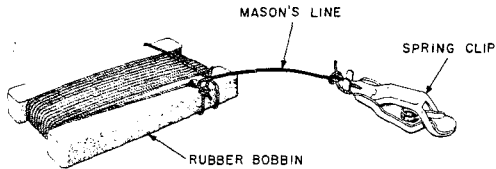

Fig. 12—Clearance Measuring Line
4.01 The Clearance Measuring Line is an inexpensive device for measuring height of drop wires over streets, highways, or driveways to obtain proper clearances (Fig. 12).